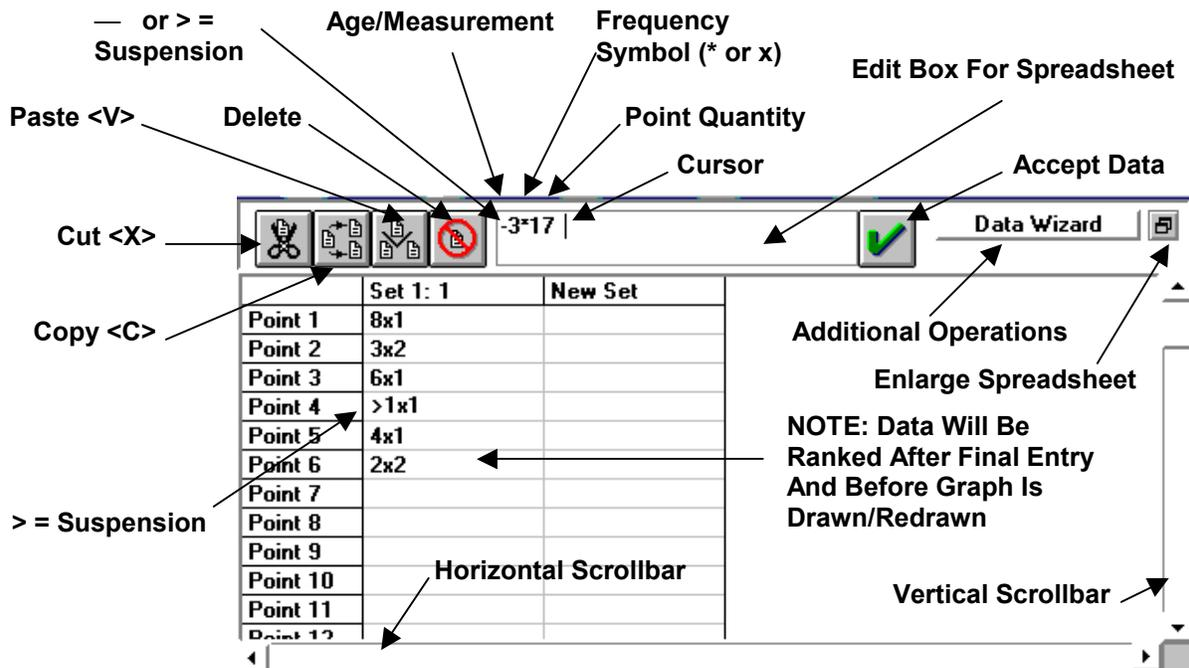
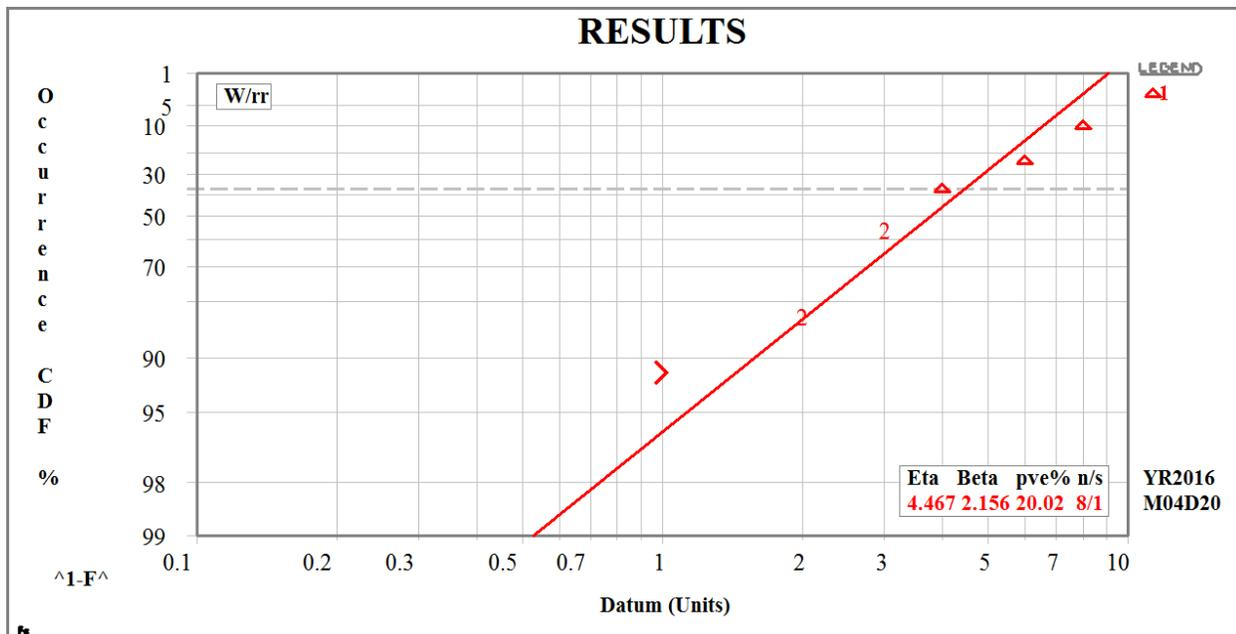

Figure 3: Same Data, Different Entry ... with Thumbnail Summary of Spreadsheet Operations
Figure 4: Weibull Probability Plot Appearance Using “x2” After Data Values “2” and “3”
- Select the plot to enlarge. Your plot should resemble Figure 4. Select the plot or use <ESC> to return to the main screen. NOTE: A shortcut way to enter repeated values is with the frequency value after the “x”.
With the FULL software version (not the DEMO version) you can type in data or copy (or “cut”) data in text format from any source and paste (or load from file) into SSW’s data grid for fast data entry. Figure 3 describes details of this spreadsheet. Select the small-size results plot to enlarge — as shown in Figure 4. NOTE: The greater-than sign (“>”) display for suspension is an option. Select the full screen plot to shrink back. Versions starting in 15 January 2002 and later show pve%, which is an improved goodness-of-fit (GOF) measure replacing r² and Critical Correlation Coefficient (CCC). The New Weibull Handbook© explains this pve% metric based on Monte Carlo simulation.